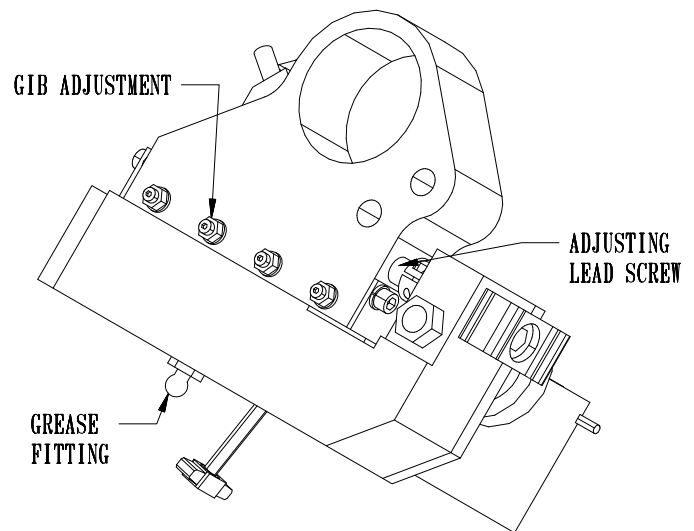

FIG. 7
2. Use the grease fitting provided to grease the dove tail with high quality lithium grease monthly. Wipe off excess grease. See FIG. 7.
3. Wipe and re-oil with spray lubricant, the grinding wheel diameter adjusting lead screw every three months. Wipe off all excess lubricant. See FIG. 7.
4. Check the gib adjustment on the Grinding wheel diameter adjustment every 3 months. See FIG. 7.